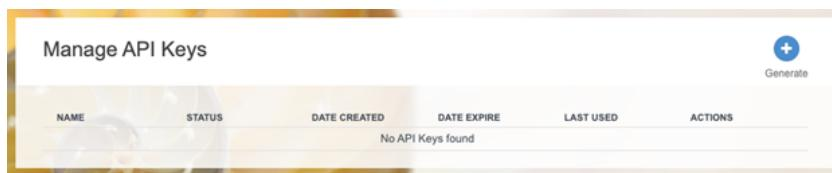

Figure 35: API Key List dialog
- In a third browser tab, navigate to <https://accounts.login.illumina.com/platform-home/#/apiKey/list> (**see Figure 35**). (If your BaseSpace account is part of an Enterprise subscription, navigate to [https://\[YourEnterpriseDomain\].login.illumina.com/platform-home/#/apiKey/list](https://[YourEnterpriseDomain].login.illumina.com/platform-home/#/apiKey/list)).